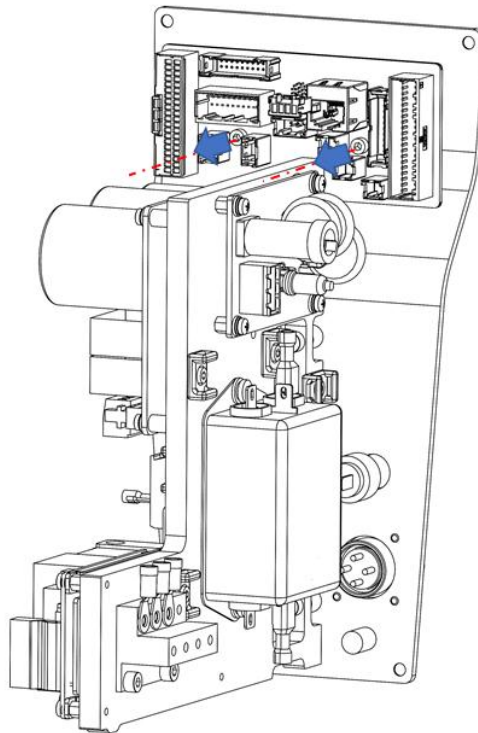

Figure 5-10 Removal of IO-free-distribution PCBA
- Step 3** Use 2.5mm Allen wrench to loosen the fastening screws on the IO-free-distribution PCBA and remove them. The position of the screws is shown in Figure 5-10.